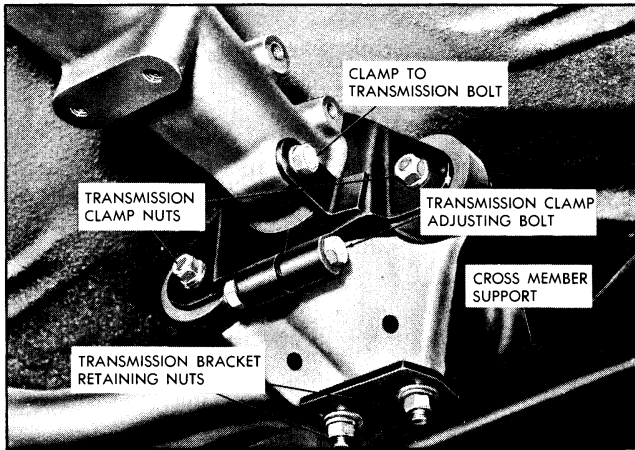

Fig. 6-20 Rear Engine Mount—Synchro-Mesh
2. Remove two transmission extension bracket to cross member support nuts (Fig. 6-20) and raise engine until transmission extension bracket studs are disengaged from lower cross member support.
3. Remove extension bracket to insulator retaining nuts (Fig. 6-20) and remove bracket.
4. Remove two front nuts from transmission extension clamp (Fig. 6-20) and remove insulators.